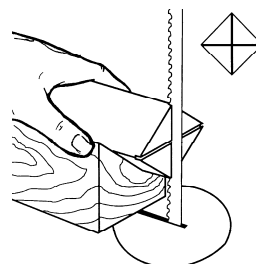

Figure 12
1. With a ruler locate and mark the center on each end by going corner to corner, see Figure 12. Accuracy is not critical on full rounds but extremely important on stock where square sections are to remain. Put a dimple in each end of the stock with an awl or nail.
2. Extremely hard woods may require kerfs cut into the spur drive end of stock, see Figure 12. You may need to drive the spur center into the stock with a wood mallet. **Note:** Never drive stock onto spur while it is mounted in the lathe spindle.